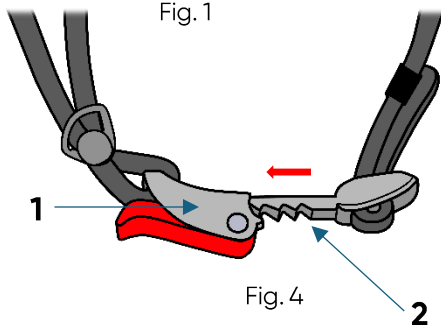
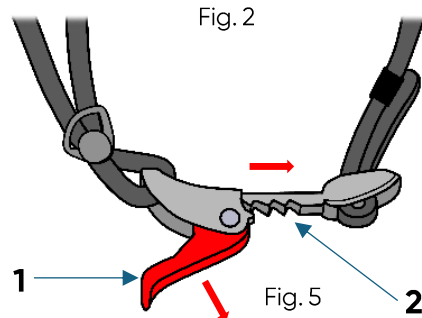

Fig. 4
Fig. 5
To buckle the strap, insert strap element (2) into buckle latch (1) (Fig. 4). To unbuckle the strap, pull back clip (1) and release strap element (2) from the buckle latch (Fig. 5).